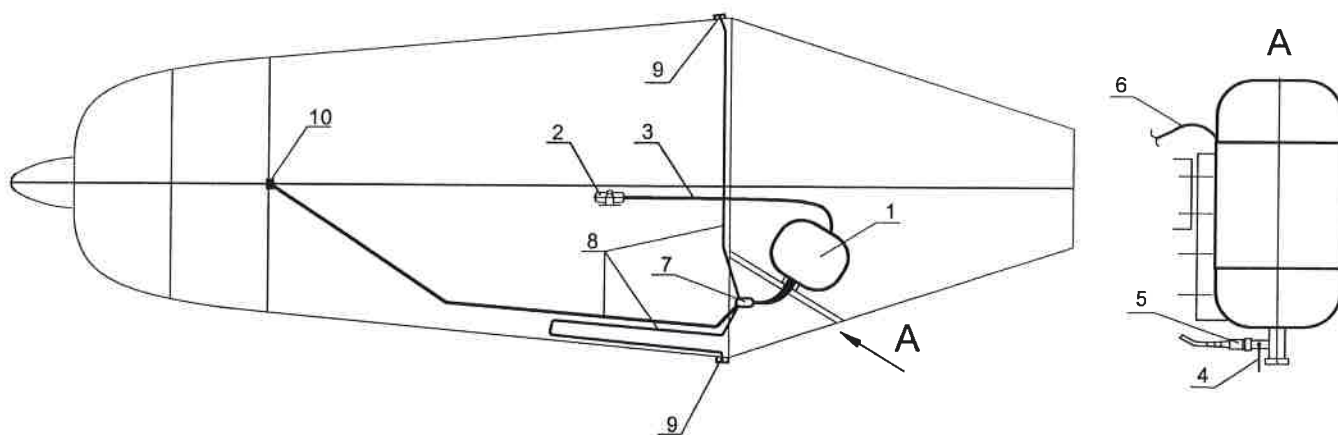

fig. 18. Installation of recovery system.
The system (1) is installed behind the pilot seats and is fastened to a special beam with bolts. The parachute strap (6) is connected to three steel cables (8) two of which are attached at their other ends to the fuselage structure near the wing attachment points (9), and the third is attached to the firewall near the upper attachment point of the nose LG strut (10) (fig. 18).